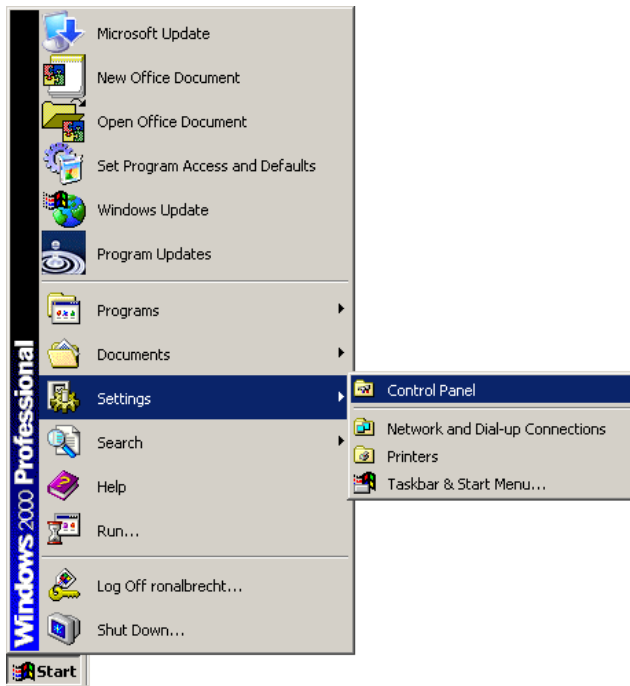

Figure 7-19: Windows Control Panel
Step 1: Open Windows Control Panel (Figure 7-19).